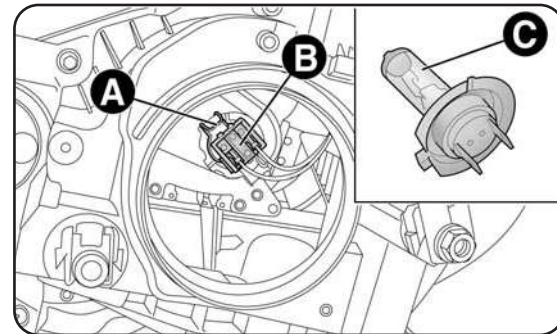

fig. 17
- release the bulb holder clip A - fig. 17;